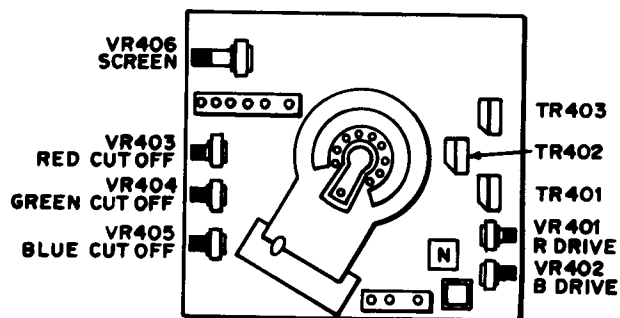

FIGURE 4
- 2.6 Turn Green Cut off Control (VR404) on the Neck Board fully CCW. (See Fig. 4)